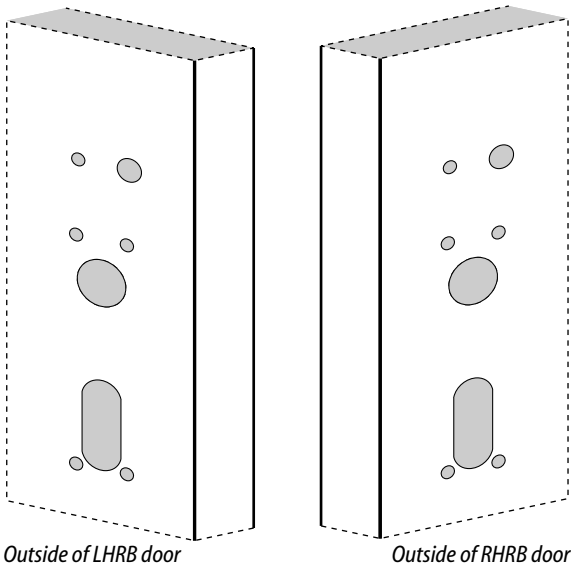
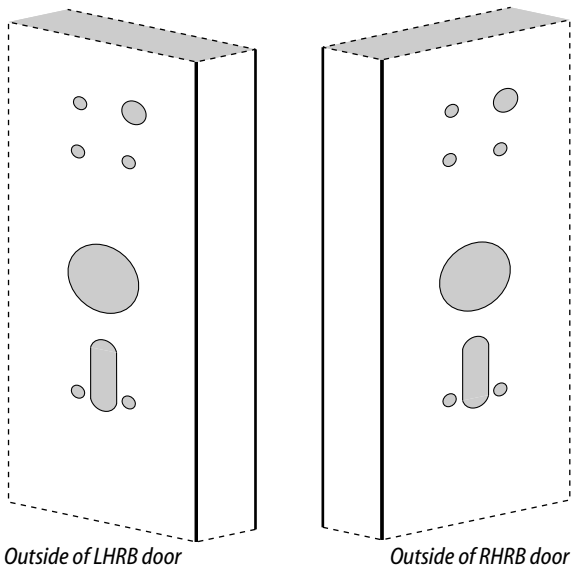
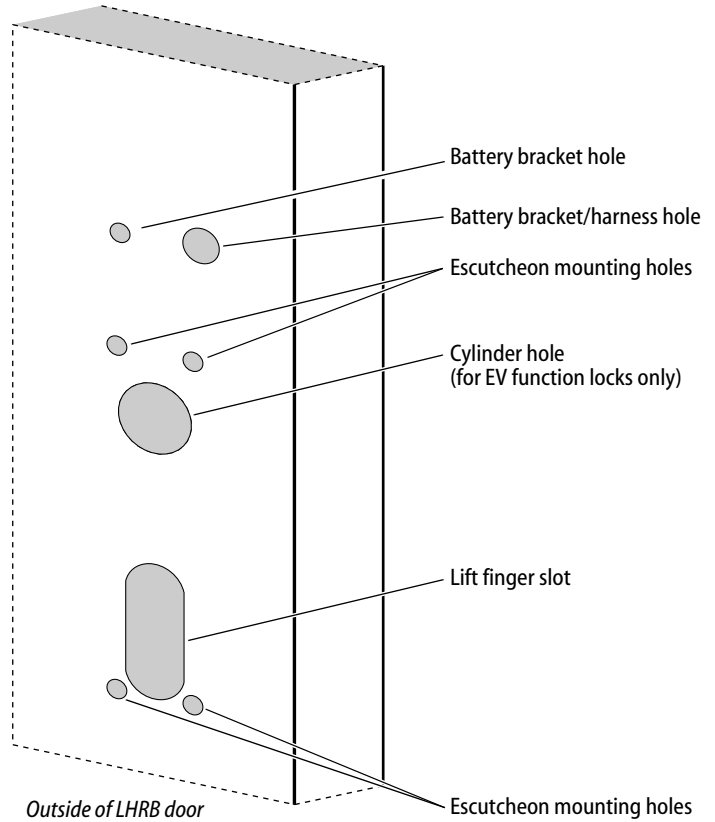

Figure 5a Drilling the trim holes for use with Precision Hardware and Sargent exit hardware
Figure 5b Drilling the trim holes for use with Von Duprin exit hardware
Figure 5c Trim hole guide – Precision Hardware and Sargent door preparation shown
- 1 Drill the trim holes listed below; follow the instructions on the trim template. See Figure 5a or Figure 5b, and Figure 5c.